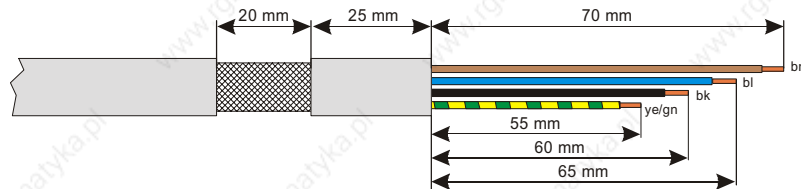

Fig. 6-1 Preparing the motor cable
2. Preparation the motor cable (fig.6-1), an mount wire end ferrules on the device end of the motor cable.
4. Fasten the connector to the front panel (item 11).